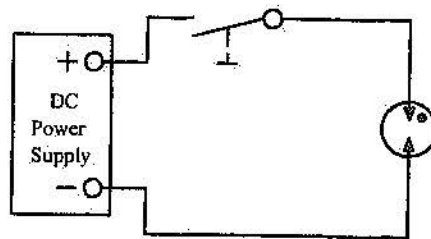

Figure 6
- Connect one neon lamp across the power supply as shown in figure 6.